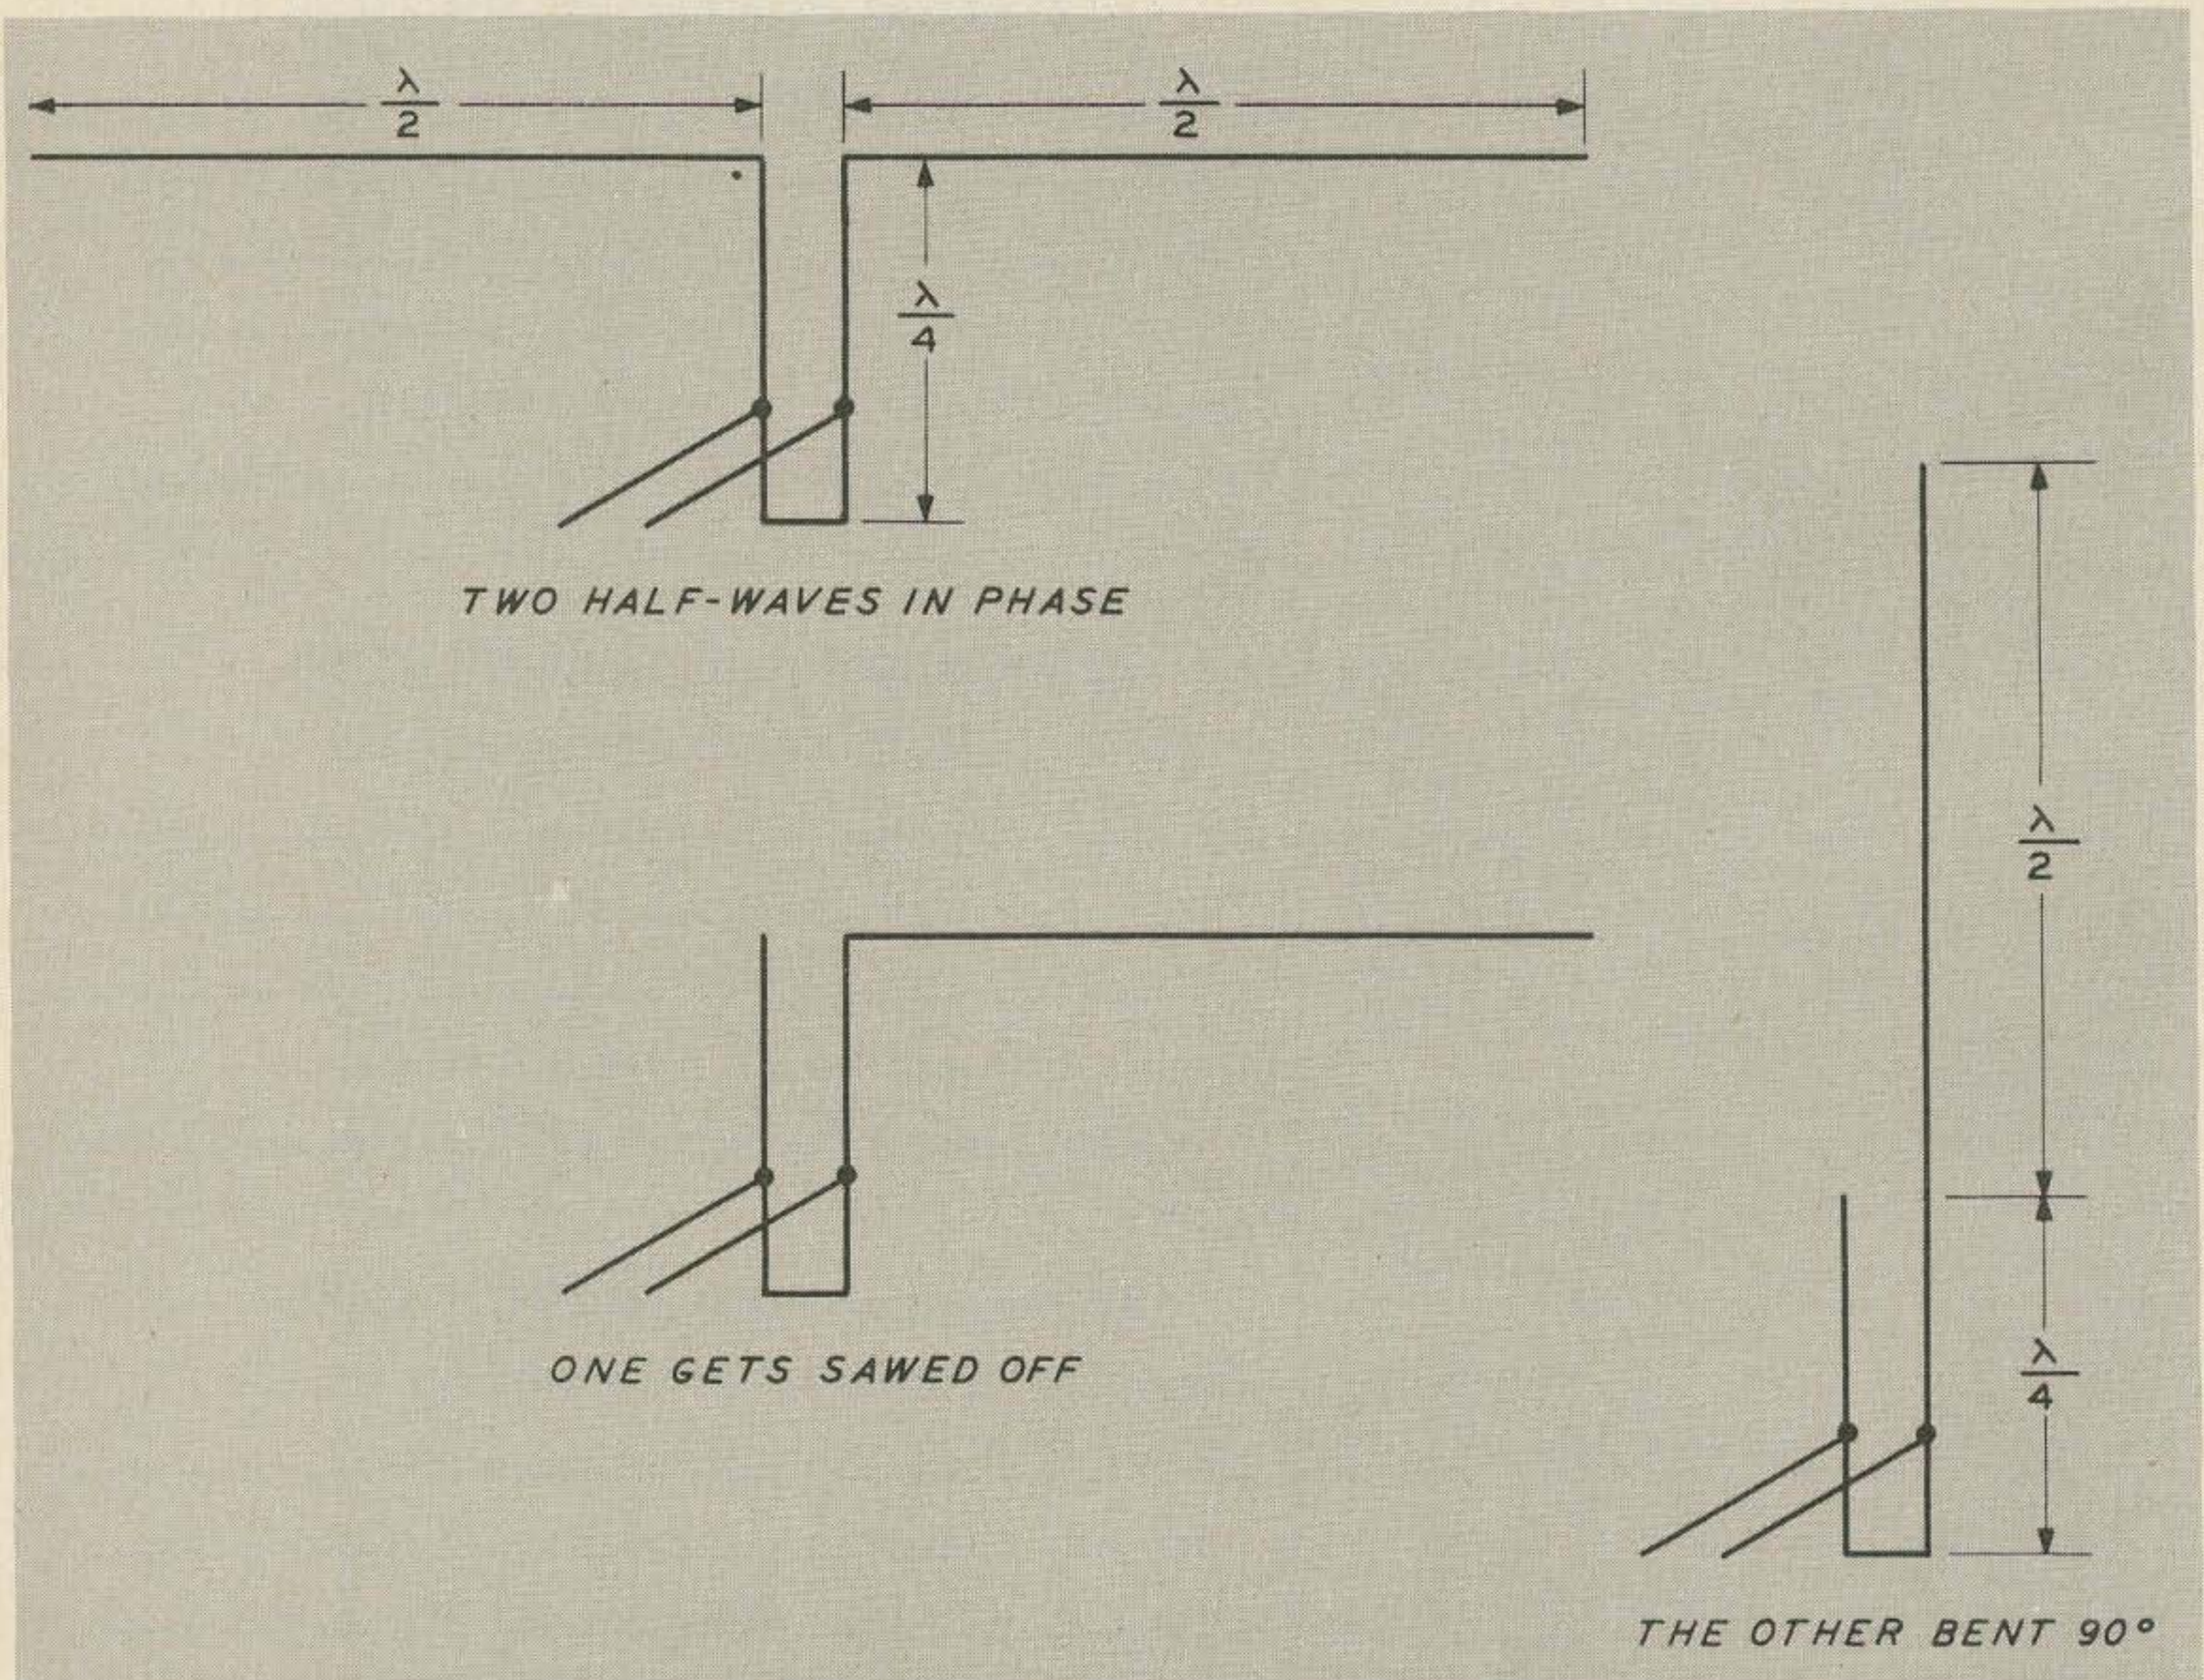

Fig. 1. Evolution of the J antenna.
It all starts with the J antenna, the evaluation of which is illustrated in Fig. 1. The J consists of a balanced quarter-wave matching stub feeding an unbalanced load as shown in Fig. 1 (C). But since balanced stubs work best with balanced loads as in Fig. 1 (A), some means of compensation must be provided to make the J workable.